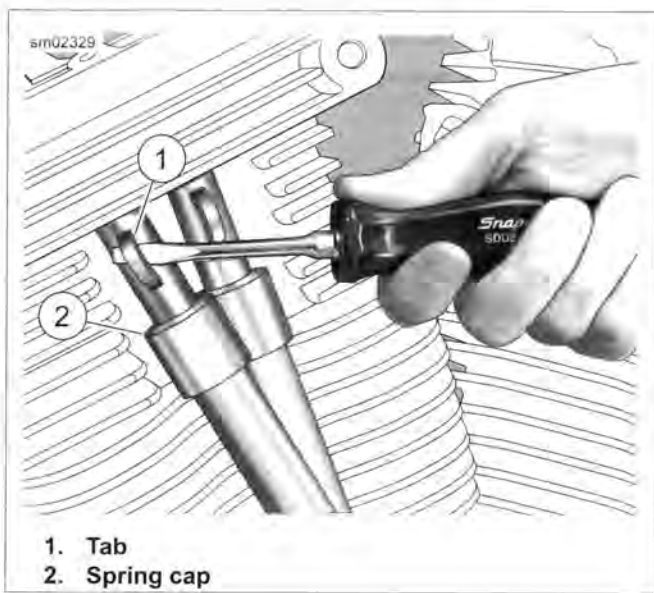

Figure 3-13. Removing Spring Cap Retainer
1. See Figure 3-13. Release pushrod covers:
- a. Insert the blade of a screwdriver into tab (1) of spring cap retainer.
- b. While pushing down on spring cap (2), rotate bottom of screwdriver toward outboard side to remove.